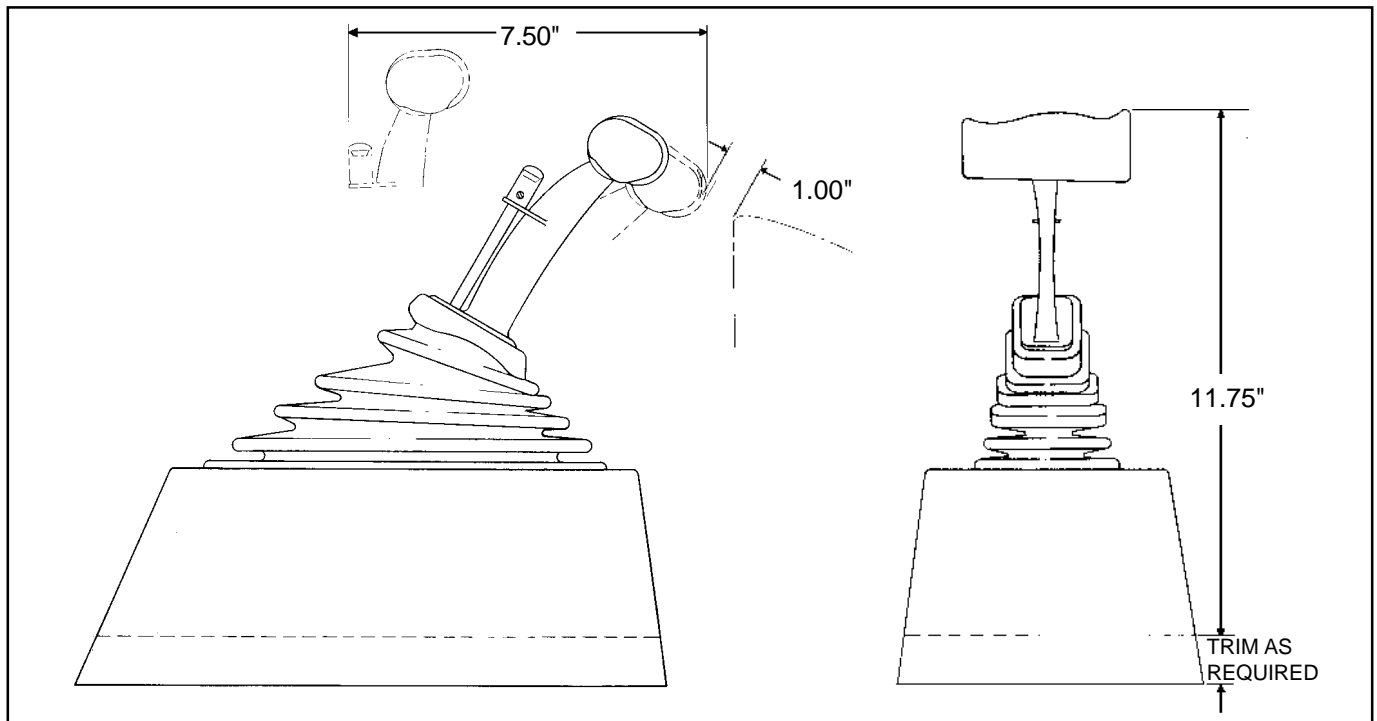

Figure 2
STEP 2. Pull the carpet away from the floorboard where the shifter is to be mounted. If the vehicle has a bench type seat, move the seat to the full forward position. Place the shifter on the floor with the stick shifted to the rearmost gate position. Locate the shifter for ease and convenience of operation (**See Figure 2**). Make sure the trigger and T-handle clear the dash with the shifter in the Park position. Mark the position of four mounting holes on the floor.